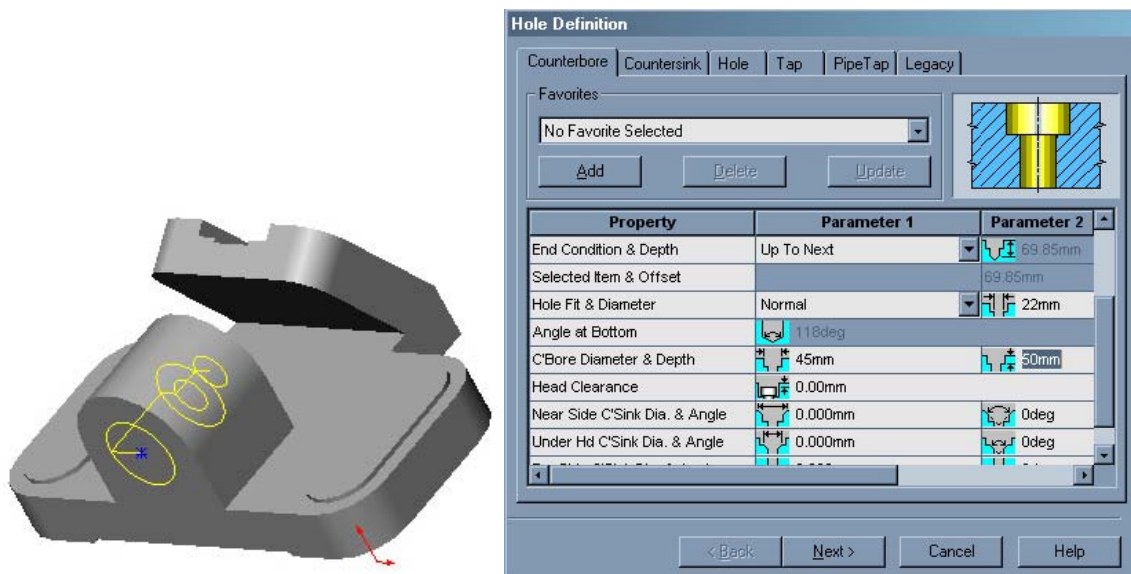

Figure 24 Counterbored Hole Parameters
4. Type **22mm** in the Hole Fit & Diameter cell. **45 mm** and **50 mm** in the Counterbore Diameter & Depth cells as shown in Figure 24.